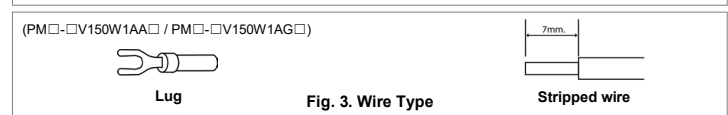

Fig. 3. Wire Type
- PM□-□V150W1AA□ / PM□-□V150W1AG□: The torque at the Connector shall not exceed 13Kgf.cm. The insulation stripping length should not exceed 0.275" or 7mm (Refer to Fig. 3).